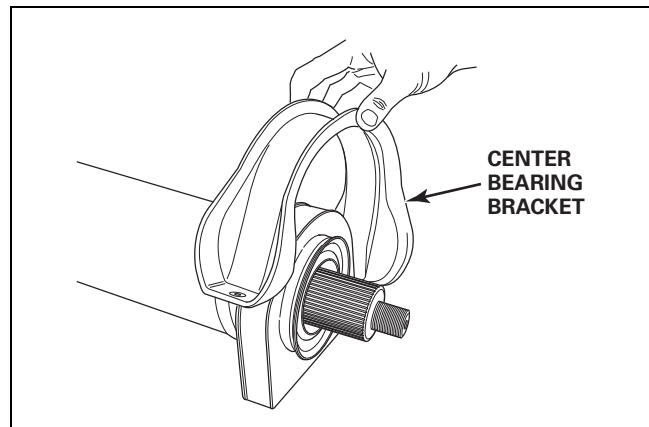

Figure 9.12
- Remove and discard the center bearing bracket. Figure 9.12.